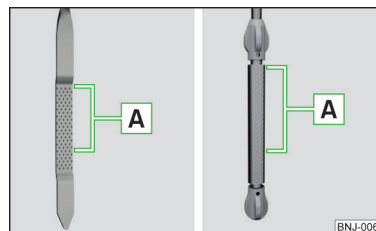

Fig. 260
The oil level must lie in range  » Fig. 260. If the oil level is below range , oil must be added.
- The oil level must never fall outside range **A** » Fig. 260 – otherwise there is a risk of damaging the engine and the exhaust system.